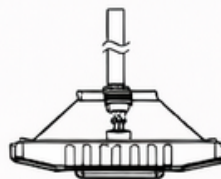

Figure 7
2. Unscrew the nut from customer supplied 3/4"NPT stem, make the stem hole on mounting bracket through 3/4"NPT stem, then screw the nut back to 3/4"NPT, and fix it (Figure 7), and fix it. (Figure 7)"